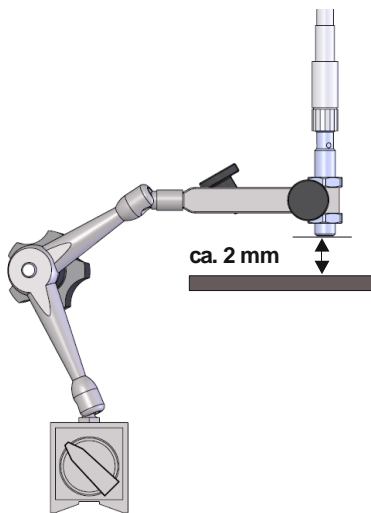

Fig. 3: Positioning the proximity switch
- The proximity switch must be positioned at a distance of about 2 mm from the surface to be detected (tool) → Fig. 3.